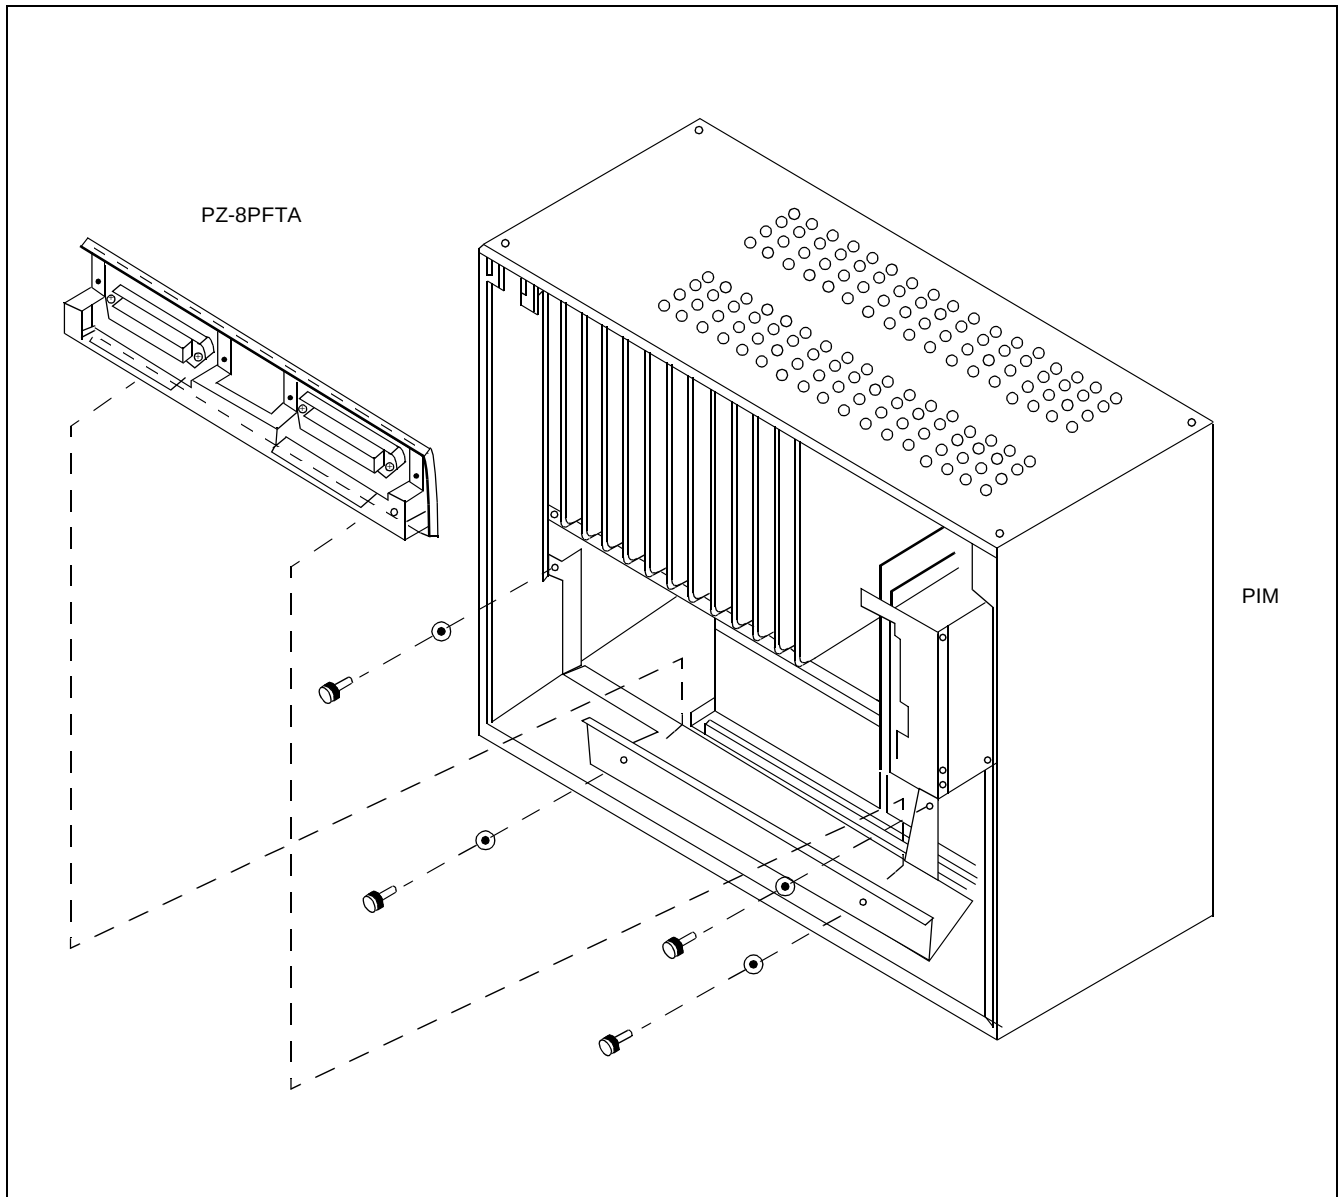

Figure 007-33 Mounting PZ-8PFTA Card to PIM
STEP 1: Mount the PFT bracket to the PIM as indicated in Figure 007-33. Then, insert the PZ-8PFTA card into the mounting bracket and secure it the screws provided.